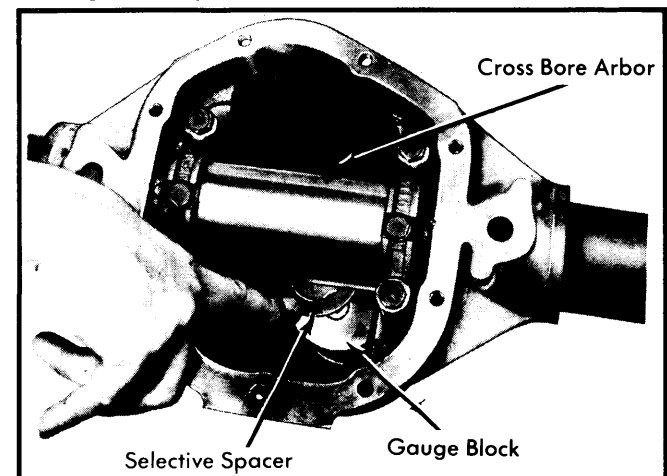

Fig. 5 Determining Correct Shim Pack Thickness
6) To select correct shim pack, read markings on end of pinion head. When marking is minus, add that amount of thickness to feeler gauge thickness to obtain thickness of correct shim pack. When marking is plus, subtract that amount of thickness. Remove all tools and REAR pinion bearing cup from housing. See Fig. 5.